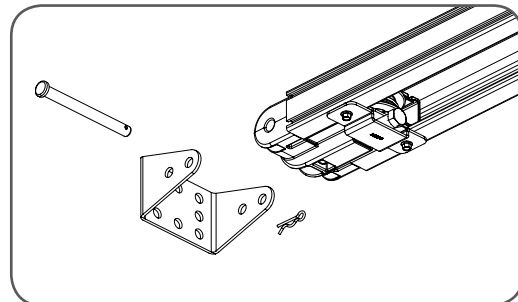

fig 15
- Attach the C-Rail assembly to the wall bracket with the 90mm long clevis pin and secure with the supplied snap pin (Fig. 15).
- Attach the wall bracket to the C-Rail with the 90mm long clevis pin (Fig. 15) and secure by a snap pin.